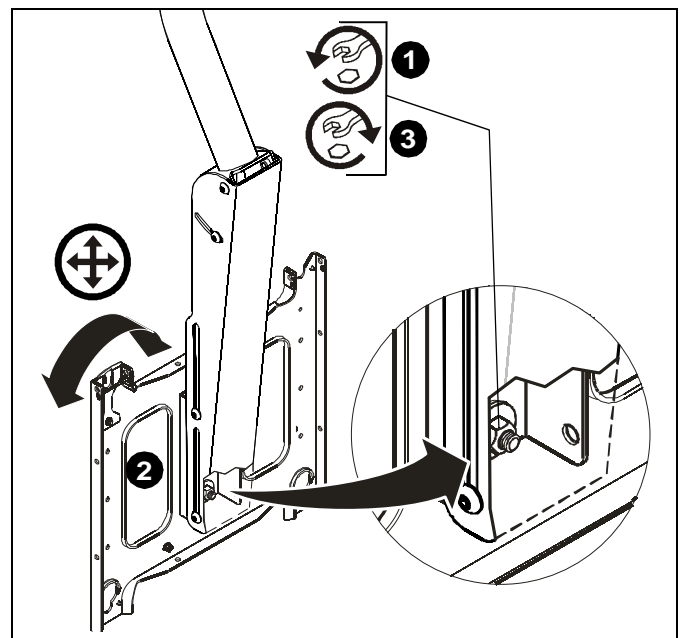

Figure 6
1. Loosen 3/8-16 Nylock nut. (See Figure 6)
2. Adjust faceplate to desired position. (See Figure 6)
3. Tighten 3/8-16 Nylock nut. (See Figure 6)